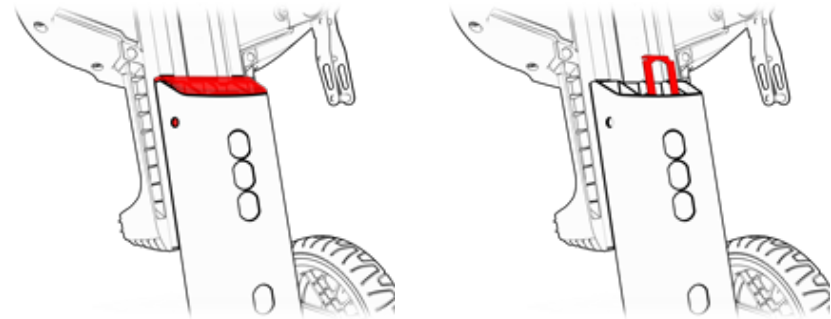

Figure 24 Seat height cover (cont'd.)
2. Under the cover you will find a metal bracket that has to be removed. Hold the bracket between your fingers and lift it out. Remember the bracket's position to make it easier to put it back in place again (Figure 24, step 2).